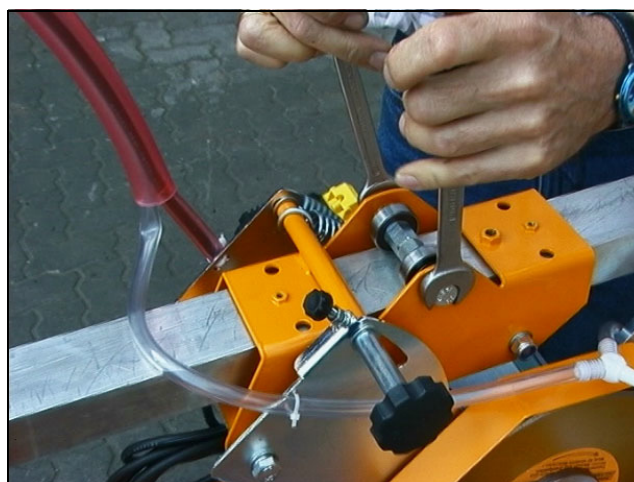

Fig. 5.8 Loosening the holding screws of the bearings
2. Loosen the M10 holding screws of the bearings slightly (Fig. 5.8)!
4. Tighten the M10 holding screws (Fig. 5.8)!